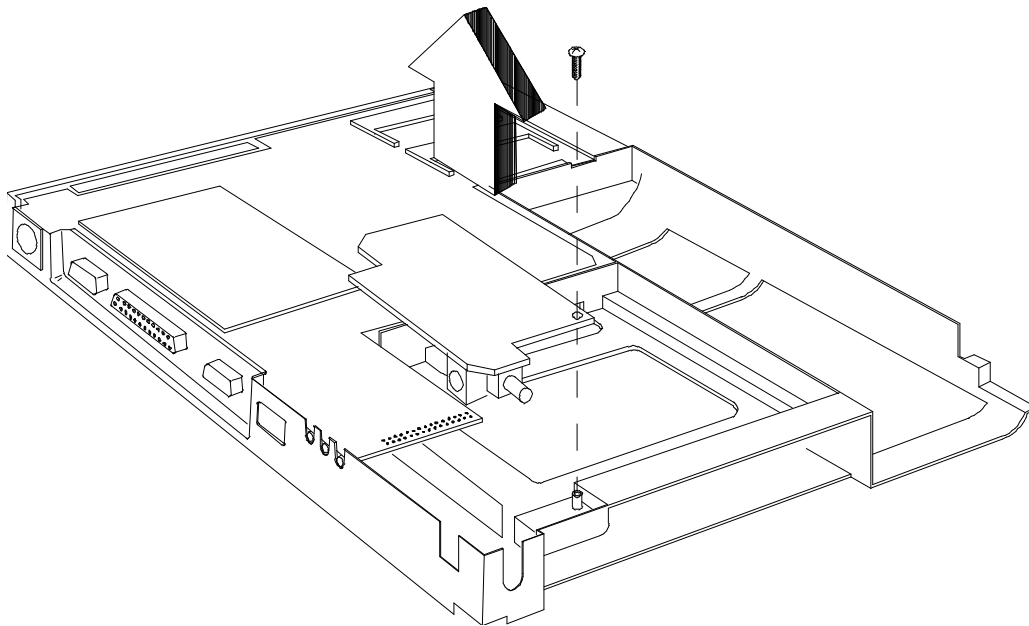

Figure 6-20 Removing/Replacing the Power Supply Board Assembly
3. Turn the unit over and remove the screw holding the Power Supply Board to the inside of the Frame Assembly (Figure 6-20). Remove the Power Supply Board.